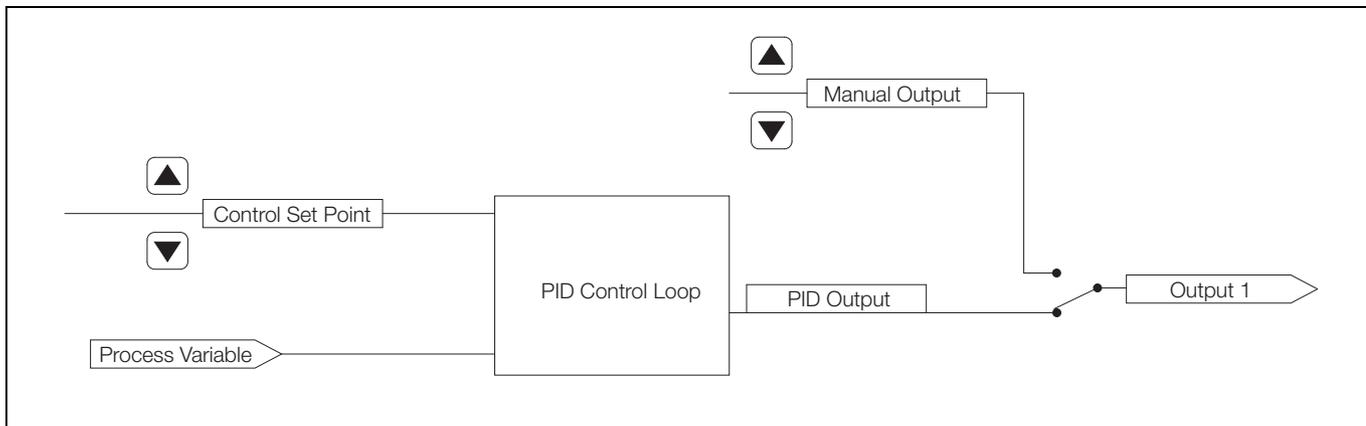

Fig. B.1 Single PID Controller
B.1 Single PID Controller – Fig. B.1